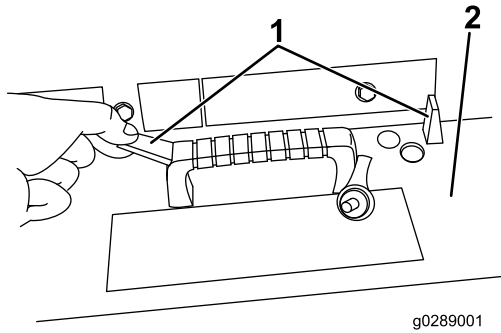

Figure 2
- Release the 2 swell latches (Figure 2).